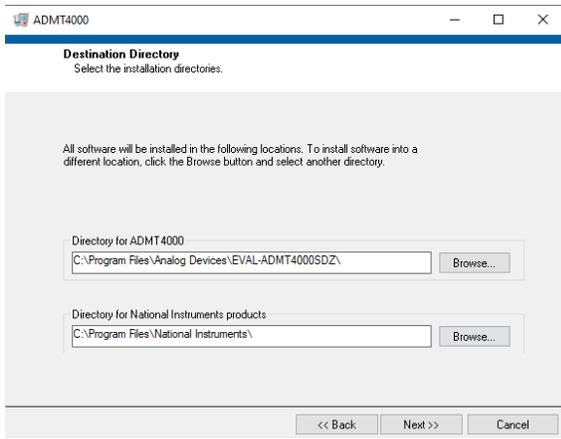

Figure 3. ADMT4000 Installation Path
2. Select the location to install the software to and then click **Next** (see Figure 3).